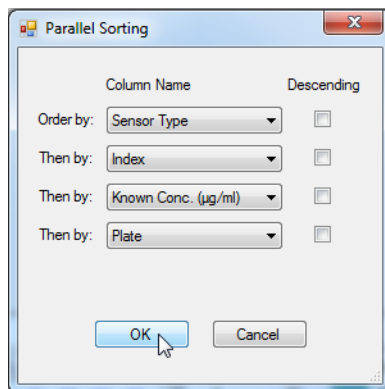

Figure 5-57: Parallel Sorting Dialog Box
2. In the Parallel Sorting dialog box, select the desired sorting parameters and click **OK** (Figure 5-57).